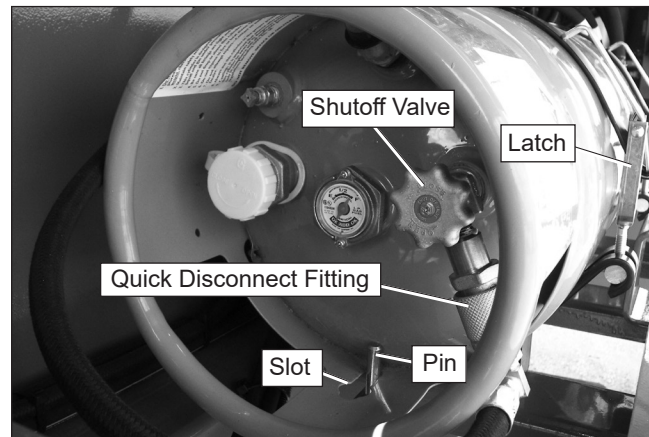

Figure 7.4 – LPG Tank
1. Close the shutoff valve (refer to Figure 7.4).